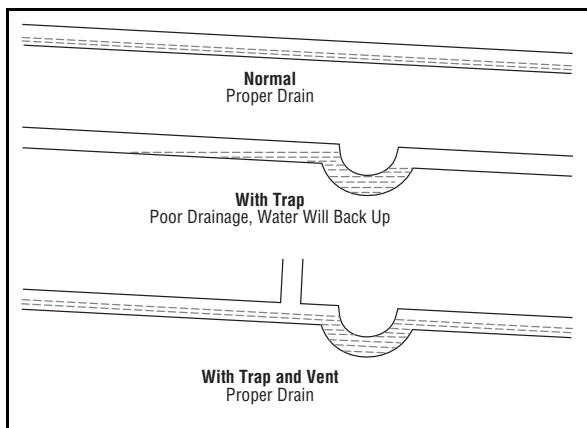

Figure 2
- Drain line does not create traps or created traps are vented (**Figure 2**).